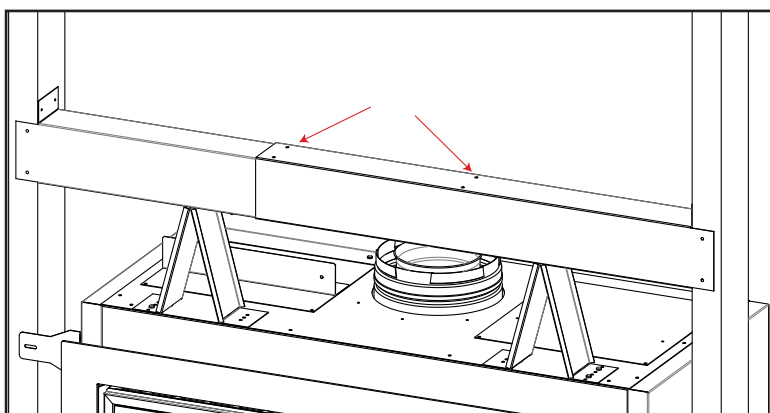

Figure 16: Steel Stud Attachment
- Using the provided sheetmetal screws, attach the two steel stud pieces together using the labeled holes in Figure 16. This should be done on the top and bottom of the steel stud to ensure its rigidity.